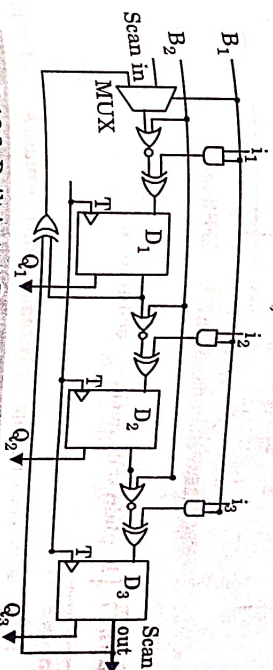

Fig. 5.16.2. Built-in-test-Built-in logic block observer (BILBO).
- Major component of a BILBO is an LFSR with a few gates. In Fig. 5.16.2 the BILBO is controlled by two signals, B_1 and B_2 which define the modes.